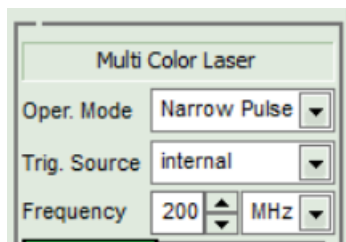

Fig. 10: Additional control elements for internal triggering in both narrow and broad pulsed mode
- Choose the option *internal* to use the Prima's internal clocks for triggering the picosecond pulses. Upon selecting this option, a spin edit box labeled *Frequency* appears, which allows setting the repetition rate from 1 kHz to 200 MHz (see Fig. 10). The frequency unit (kHz, or MHz) can be selected from the selection box next to it.